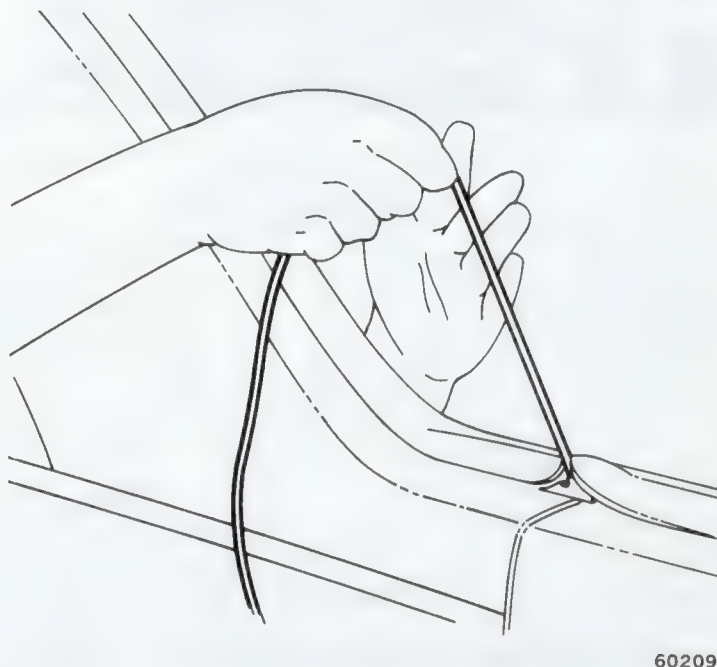

Fig. 3K-18 Rear Quarter Glass Installation
- (2) Insert a cord in lip groove of rubber channel around glass and overlap cord ends at bottom of the glass.
- (3) Apply approximately 1/2-inch bead of 3M Auto Bedding and Glazing Compound, or equivalent, to window opening ledge—**not on flange**.
- (4) Set upper end of glass against upper flange and set bottom end in.
- (5) Pull cord up to lift lip of rubber channel over flange completely around glass (fig. 3K-18).